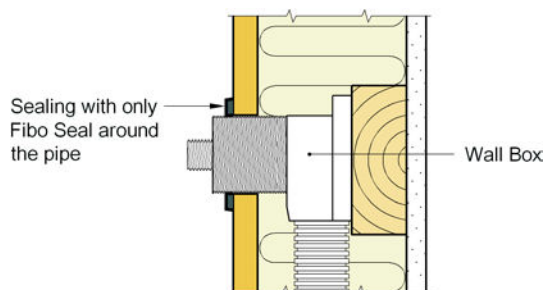

Fig. 5
- Fibo Seal around the wall box. See Figure 5.